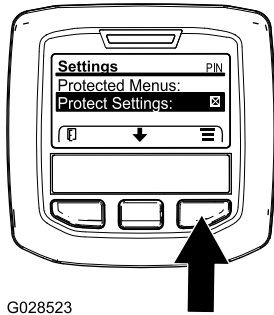

Figure 12
- From the MAIN MENU, use the center button to scroll down to the SETTINGS MENU and press the right button (Figure 12).